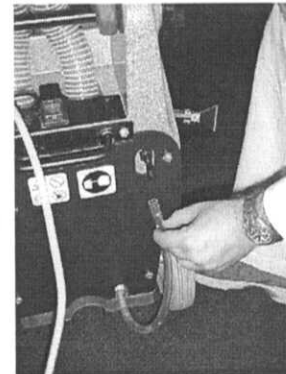

Figure 12
1. Pull solution tank drain hose off of hose barb at rear of machine and empty remaining solution (Figure 12).